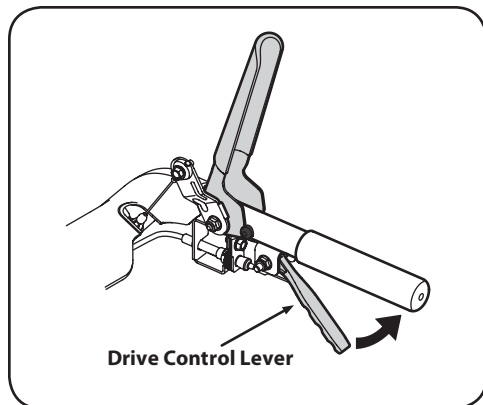

Figure 4-5
1. To engage the drive, squeeze the Drive Control Lever completely up against the upper handle to engage the wheels. To stop the forward motion, release the drive control. See Figure 4-5.